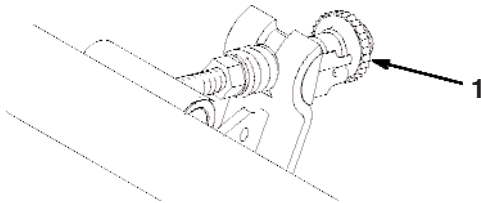

Figure 3
1. A 3/4 in. (19 mm) wrench will be needed to rotate the bedknife adjustment knob. Each notch on the knob will move the bedknife .013mm (Fig. 3). Make sure reel contact is removed by rotating the bedknife adjustment knob counterclockwise.